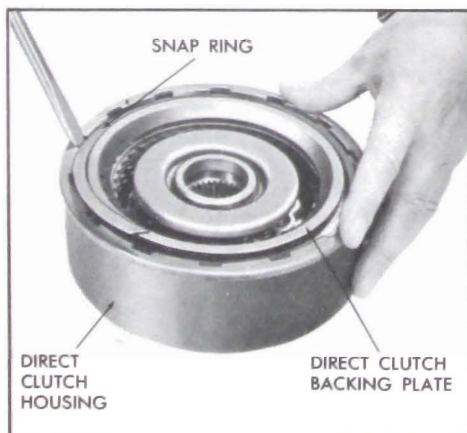

Figure 5-653
10. Install the backing plate retaining snap ring. See Figure 5-653.